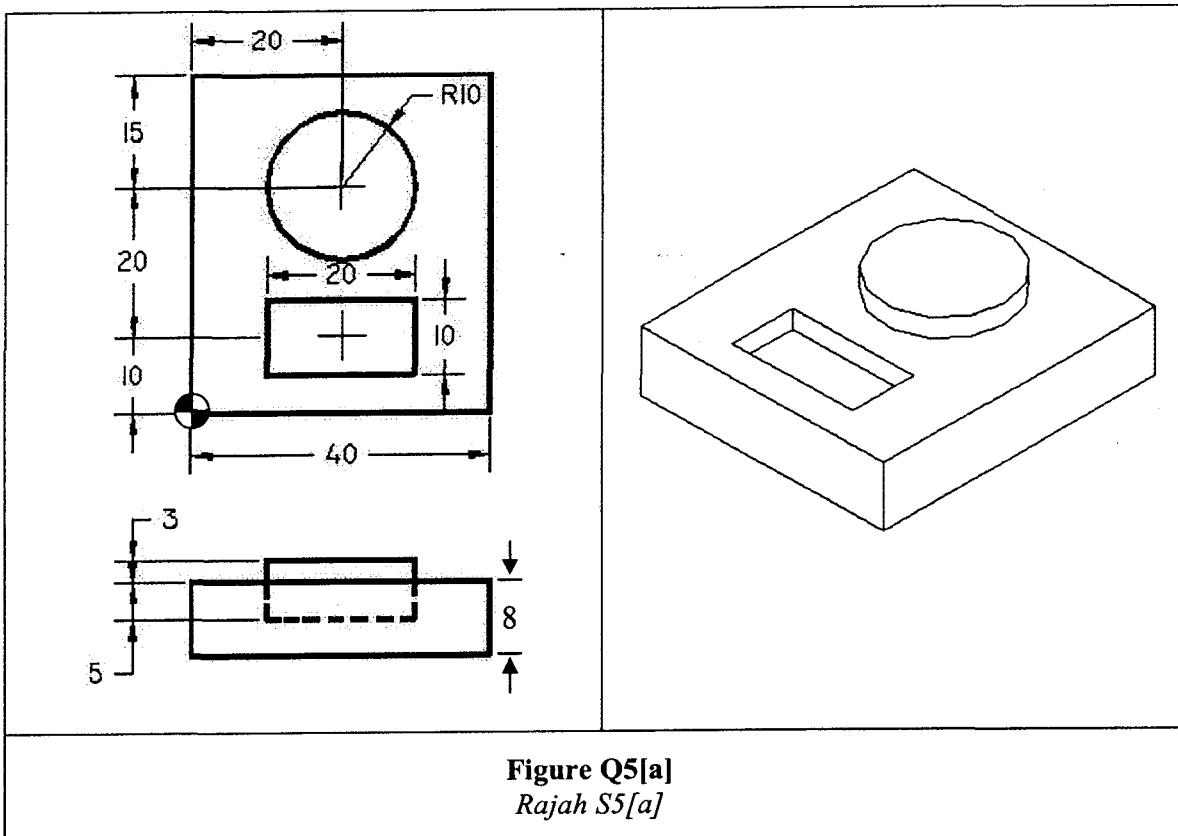

Figure Q5[a]
- Q5. [a] Write a CNC program for the workpiece described by an engineering drawing as in Figure Q5[a]. Use the G and M codes that are appropriate to the Dialog 12 controller with Canned Cycle for pin G87*3, followed by Canned Cycle for rectangular pocket G87*1 with a depth of 5mm from the top surface.**